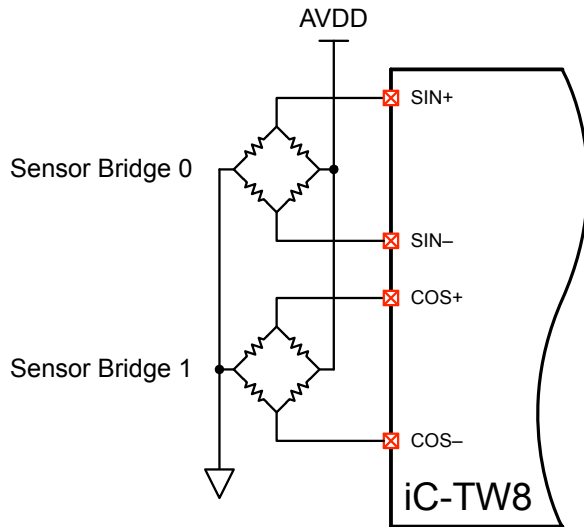
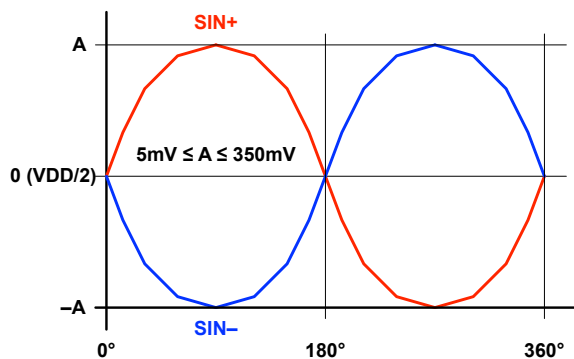

Figure 9: Differential Sensor Connection
Figure 10: Differential Sensor Signal Inputs
The iC-TW8 connects directly to magnetic (such as the iC-SM2L or iC-SM5L) or optical sensors providing differential Sin/Cos outputs as shown in Figure 9. Signal amplitude (A) from all four sensor channels must be in the range of 5 – 350mV as shown in Figure 10 for proper operation with the iC-TW8.